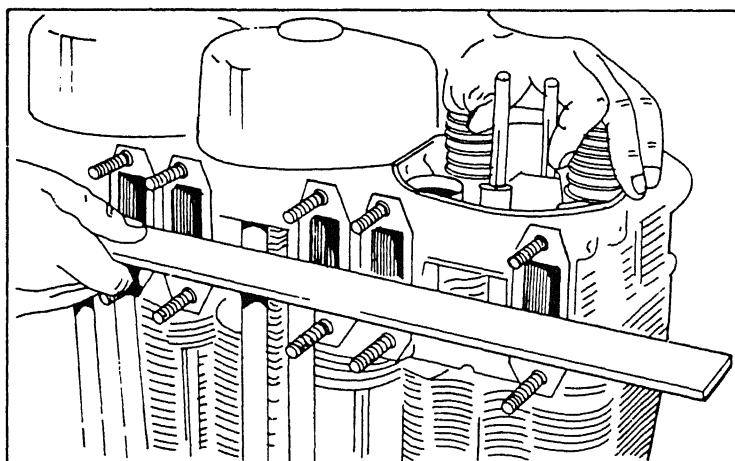

Figure 5-57. Aligning Cylinder Heads
- (4) With piston positioned a little before top dead center (BTDC), install intermediate ring (4), and place cylinder head (3) on cylinder. Install washers (2) and head bolts (1) but only slightly tighten head bolts.
- (5) Align inlet and exhaust flanges of cylinder heads, using a bar with straight edge as shown in figure 5-57.